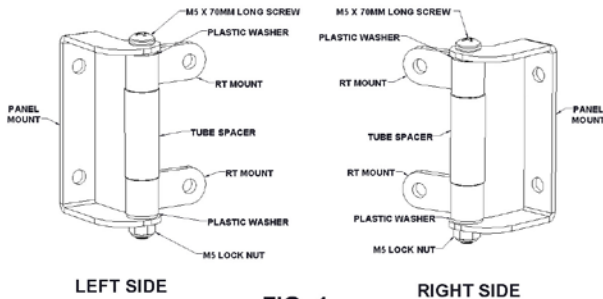

FIG. 1
- REMOVE THE HARDWARE KIT FROM THE PACKAGE AND ASSEMBLE THE PARTS AS SHOWN IN FIG. 1 BELOW. ADJUST THE TENSION OF THE SCREW AND LOCK NUT SO THAT YOU CAN EASILY MOVE ALL OF THE MOUNTS.